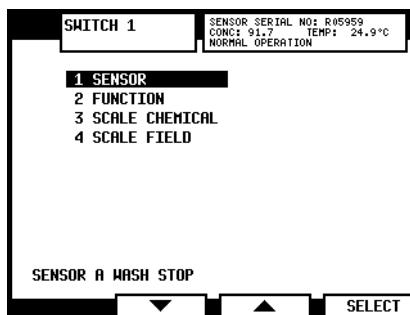

Figure 6.5 Switch menu
4. Select the switch, 1, 2, 3 or 4, to be configured. You now get the Switch menu, see Figure 6.5 below.